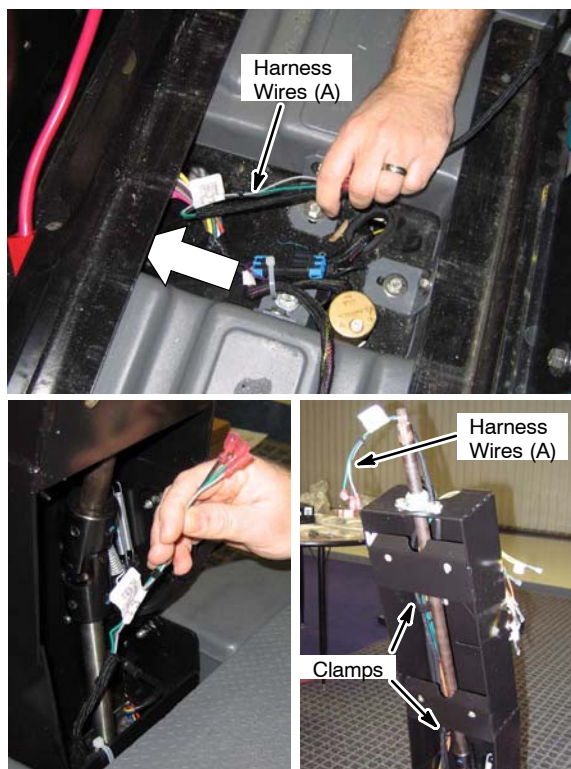

Fig. 4
2. Starting from inside the battery compartment, route the *ec-H2O* harness wires (A) under the solution tank and up the steering column as shown (Figure 4). Secure the harness wires within the existing wire harness clamps.